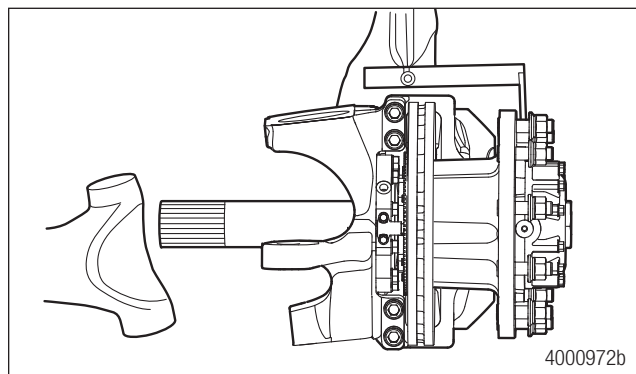

Figure 14.3
4. Using a hoist, position the wheel end and shaft assembly at the correct height for assembly into the housing. Figure 14.3.